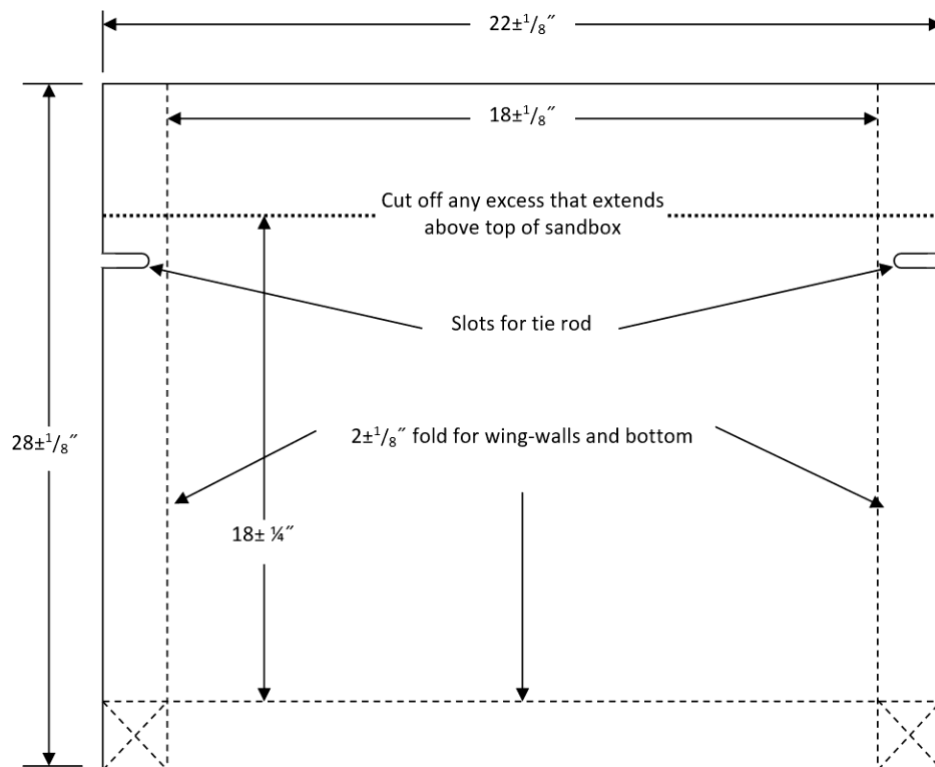

Figure 8: Dimensions of the poster board wall facing (not to scale)
- Facing – One piece of poster board. See Figure 8 for dimensions.
- a) **Reinforcement Fabrication Stage** – Each team will be provided with a single sheet of 60 lb kraft paper approximately 24 in × 24 in. The team must fabricate all their reinforcing elements from this sheet using authorized construction tools. Fifteen (15) minutes will be allotted for this stage. Teams will be penalized for time exceeding the time limit. After all reinforcing elements are fabricated, excess material will be disposed of and the judges will weigh the reinforcing elements to the nearest 0.01 grams.
- b) **Wall Assembly Stage** – After each team’s reinforcing elements have been fabricated and weighed, the team will be provided with a sheet of poster board (22 in × 28 in) and a roll of packing tape. The team must assemble their wall using these materials and authorized construction tools. Dimensions for the wall facing area shown in Figure 8.